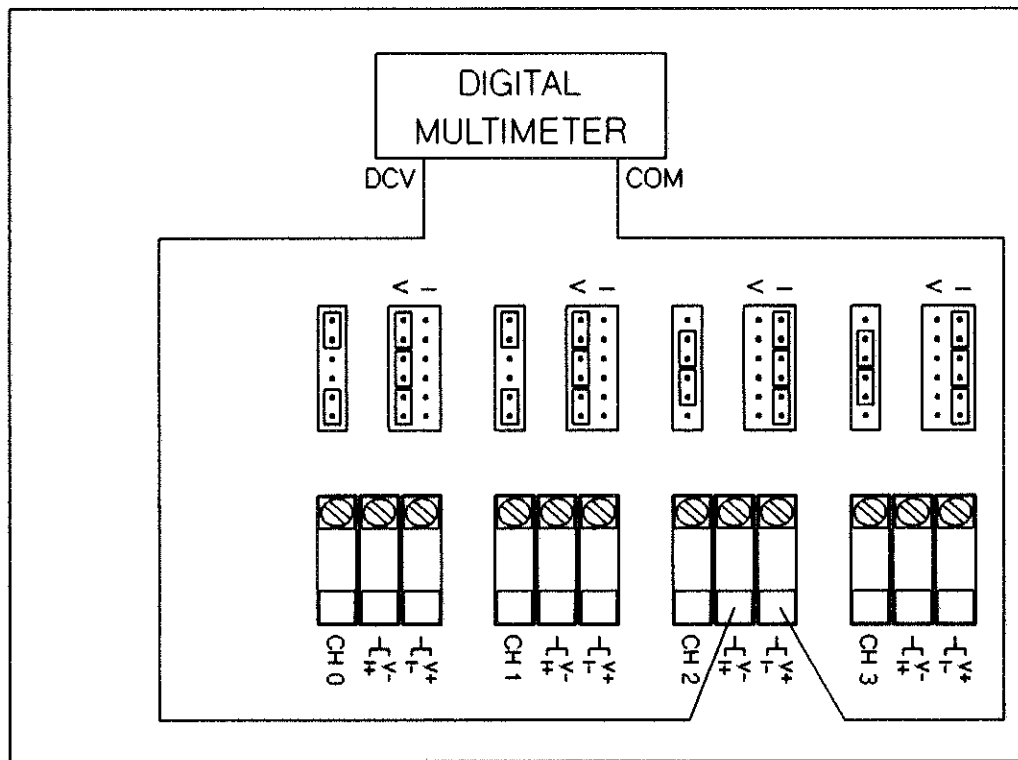

Figure 15-21 Current Calibration Connections
2. Set the multimeter to measure dc volts. On the terminal module, connect the multimeter DCV input to the I+ connection and connect the COM input to the I- connection of the channel to be calibrated. With these connections and the Sense jumpers on the terminal module set in the CAL position, the multimeter measures across a 250 ohm calibration resistor. The resistor is used in conjunction with the multimeter to calibrate the current output. The connections are shown in Figure 15-21.
In Figure 15-21, Channels 2 and 3 are configured for current, and Channels 0 and 2 are configured for voltage. Use Channels 2 and 3 jumper configuration for current calibration